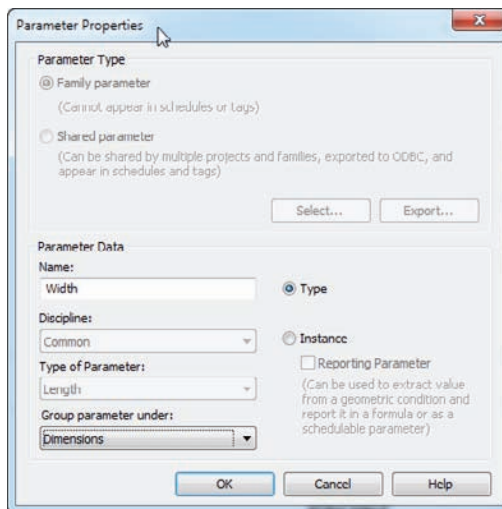

FIGURE 17.7 Configuring the parameter
3. In the Parameter Properties dialog, under Parameter Data (as shown in Figure 17.7), type **Width** for Name.